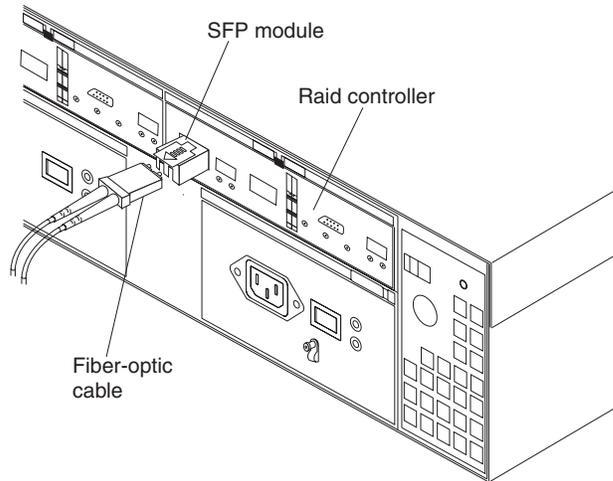

Figure 41. Location of SFPs and fiber-optic cables
4. From the first RAID controller to be upgraded, remove the fibre-channel cables from the SFPs. The location of these components is shown in Figure 41 on page 52.